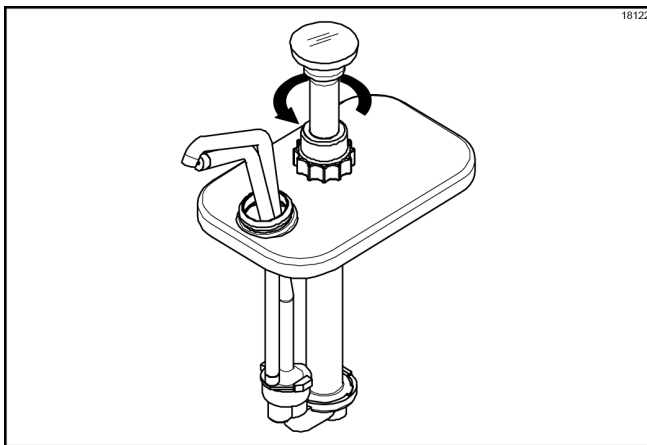

Figure-72
3. Remove the plunger assembly from the pump body by turning the plunger nut counterclockwise. (See Figure-72.)